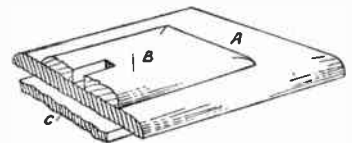

Fig. 3—The 3-piece lid
The lid of the box consists of three plain pieces of wood glued together as (A), (B) and (C) in the diagram Fig. 3. The main large section (A), measures  $5\frac{1}{2}$  ins. by  $3\frac{1}{2}$  ins. by  $\frac{1}{4}$  in. thick, and to the top of this is glued a piece shown as (B) on the pattern sheet. This, and the main section of the lid has its edges shaped as shown in the cross hatched section on the sheet.